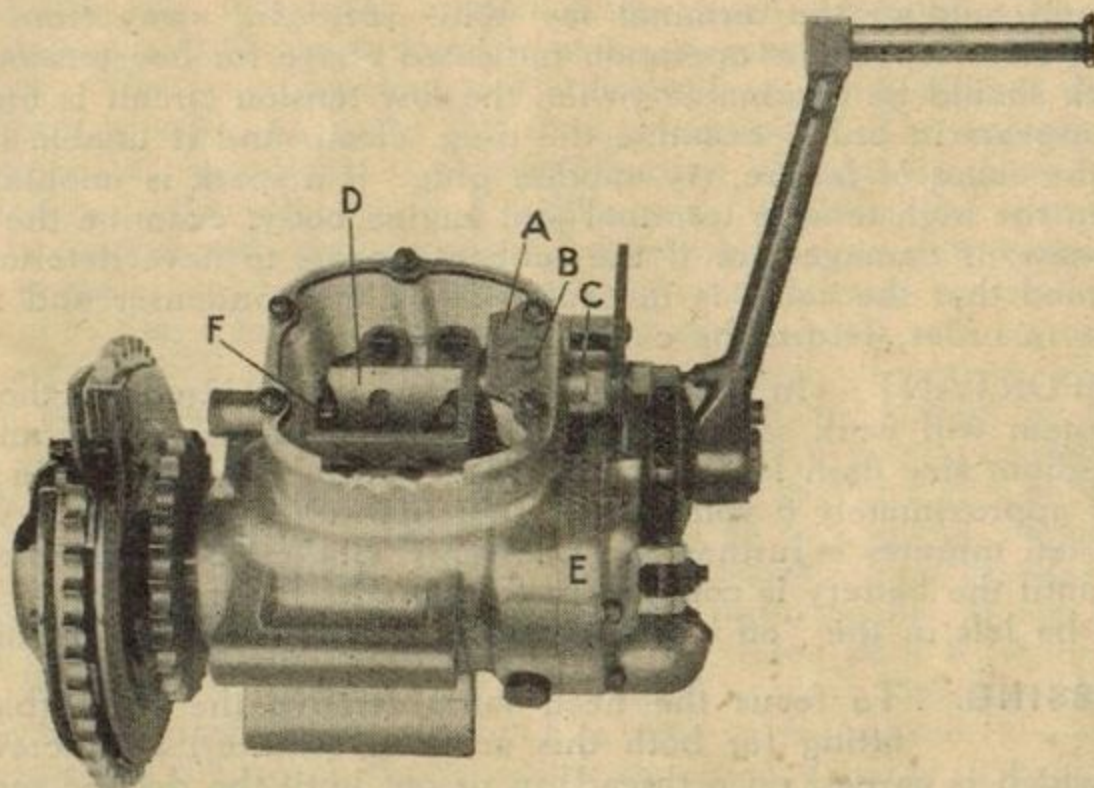

FIG. 20. THE RUDGE FOUR SPEED GEAR BOX.
Grip the box in a vice by holding down lugs at the bottom, take off the inspection cover (A, Fig. 20), noting that a grub screw (B) in this engages with a hole in the threaded cam plate bearing (C). Remove the cam plate complete with its bearing and external lever. Remove the end cover of the box (Fig. 22) complete with kick starter mechanism, but leaving the layshaft spindle in place. The removal of the nut securing the kick starter crank to its shaft allows of this.
As mentioned above, a grub screw in the inspection cover engages with a hole in the threaded brass cam plate bush (C, Fig. 20). As the box was adjusted correctly in the first place it is simply necessary to ensure that the grub screw (B) is returned to this hole, when the setting must necessarily be correct.
It may be however, that the setting has been interfered with and that more than one hole will be found in the brass bearing. In such a case it is advisable to re-set the box. To do so, fit a strap over the threaded bearing (C, Fig. 20) held down by the existing studs on each side. This keeps the bearing rigid and allows the operator to look through the inspection aperture.